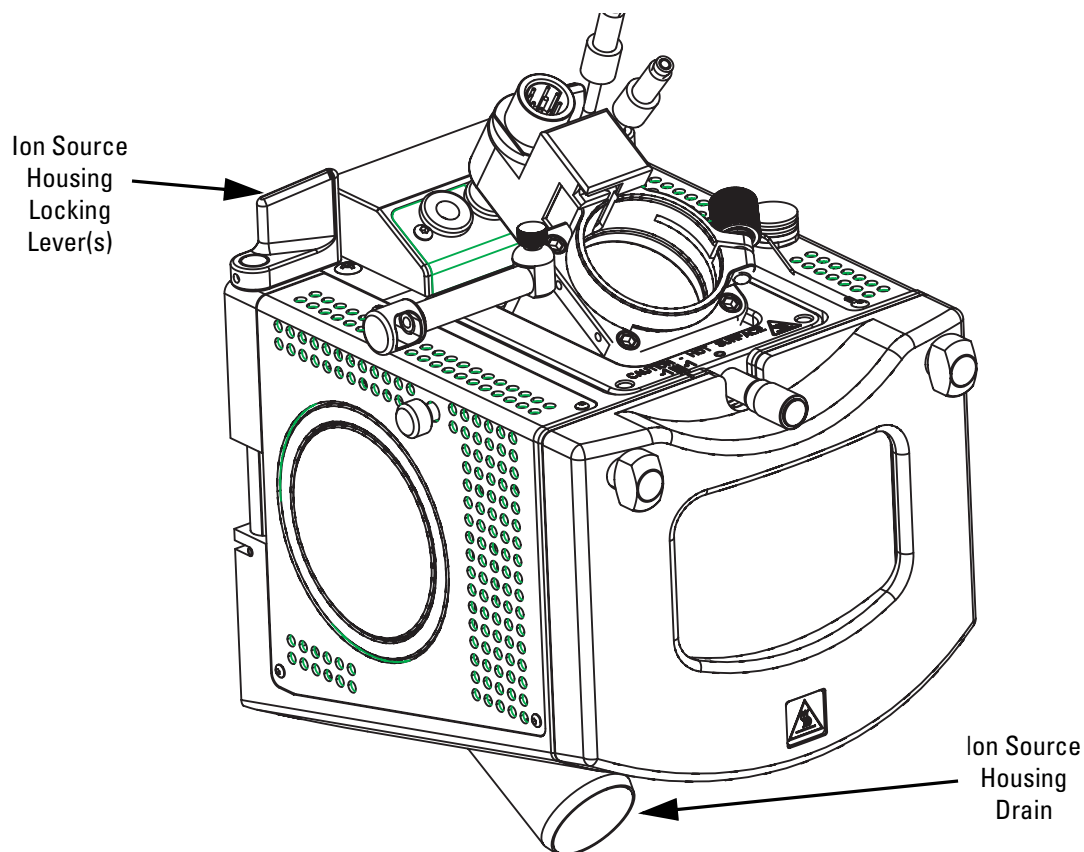

Figure 6-4. Ion Max, detail of components
1. Remove the drain tube from the ion source housing drain. See Figure 6-4.